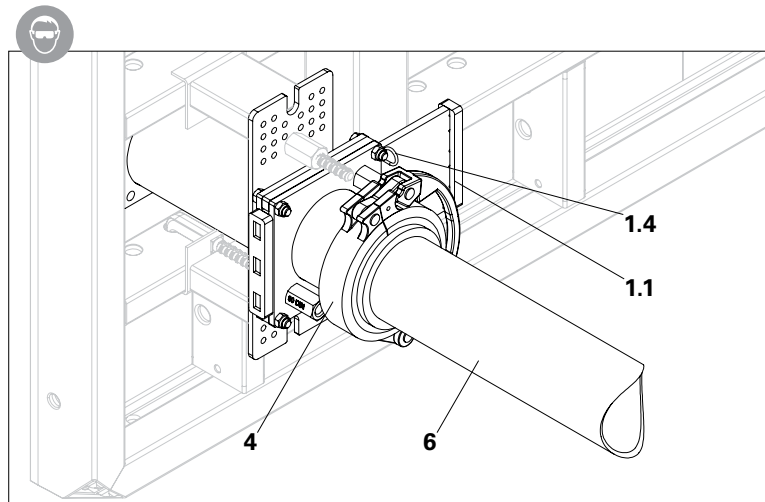

Fig. A.10
1. Mount concrete feed pipe (6) to the Concrete Pump Connector using Coupling BPA (4).
2. Open gate valve (1.1) and secure with a cotter pin (1.4). (Fig. A.10)